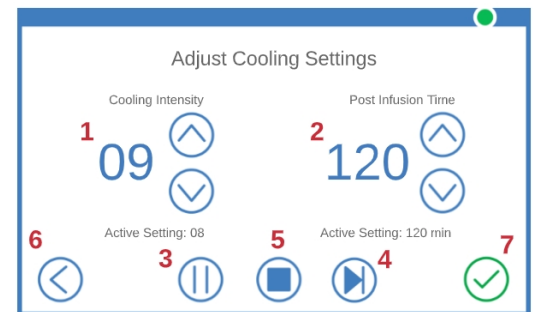

Figure 16. Adjust Cooling Settings
The therapy settings can be adjusted by entering Clinician Mode and is available in any Phase of Cooling Therapy (Figure 16). Here the clinical staff can change cooling parameters or transition to other phases of therapy. Clinical staff can access this screen entering the Clinician Mode sequence described in Figure 7.
- When the chemotherapy infusion is complete, the clinical staff can enter into Clinician Mode and transition to the Post Infusion Cooling Phase using the Transition Button (▶) (Figure 16,4).
- To pause the Cooling Session, press PAUSE ⏸ on the Therapy Run Screen (Figure 19) or in Clinician Mode (Figure 16,3).